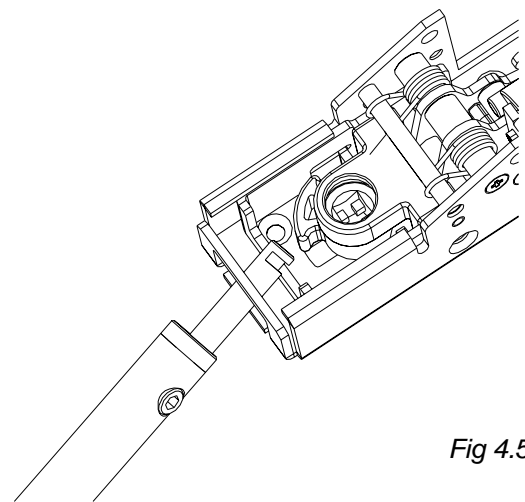

Fig 4.5
- 8) Remove Panic Bolt box from door and insert rod connectors onto angled plates inside main body **See Fig 4.5**